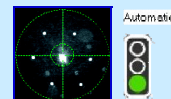

Fig. 1
- Center the 6 illumination LEDs around the pupil (Fig. 1). A **traffic light display** serves as a quick and simple method of obtaining the optimum measurement setting. When the optimum measurement position has been reached, the traffic light will change from red to yellow to green.